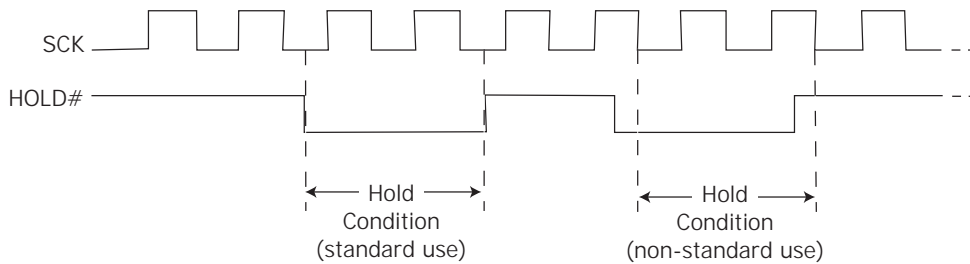

Figure 3. Hold Condition Activation
To enter the Hold condition, the device must be selected, with Chip Select (CS#) Low. The Hold condition starts on the falling edge of the Hold (HOLD#) signal, provided that this coincides with Serial Clock (SCK) being Low (as shown in Figure 3).
If the falling edge does not coincide with Serial Clock (SCK) being Low, the Hold condition starts after Serial Clock (SCK) next goes Low. Similarly, if the rising edge does not coincide with Serial Clock (SCK) being Low, the Hold condition ends after Serial Clock (SCK) next goes Low (Figure 3). During the Hold condition, the Serial Data Output (SO) is high impedance, and Serial Data Input (SI) and Serial Clock (SCK) are Don't Care.